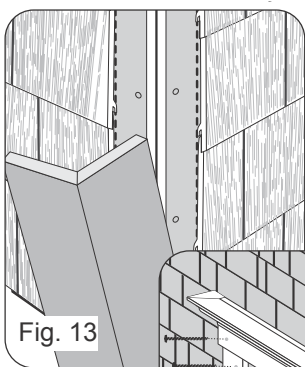

Fig. 13
- Install the panel securing it by placing nails along the cut edge of the panel approximately every 16". The head of the nails will hold the panel back to the wall and the shaft of the nail will keep the panel from raising and becoming unlocked from the panel below it (Fig. 12). Pin each panel in place by placing one nail through the panel itself toward the middle of the panel (Fig. 13).